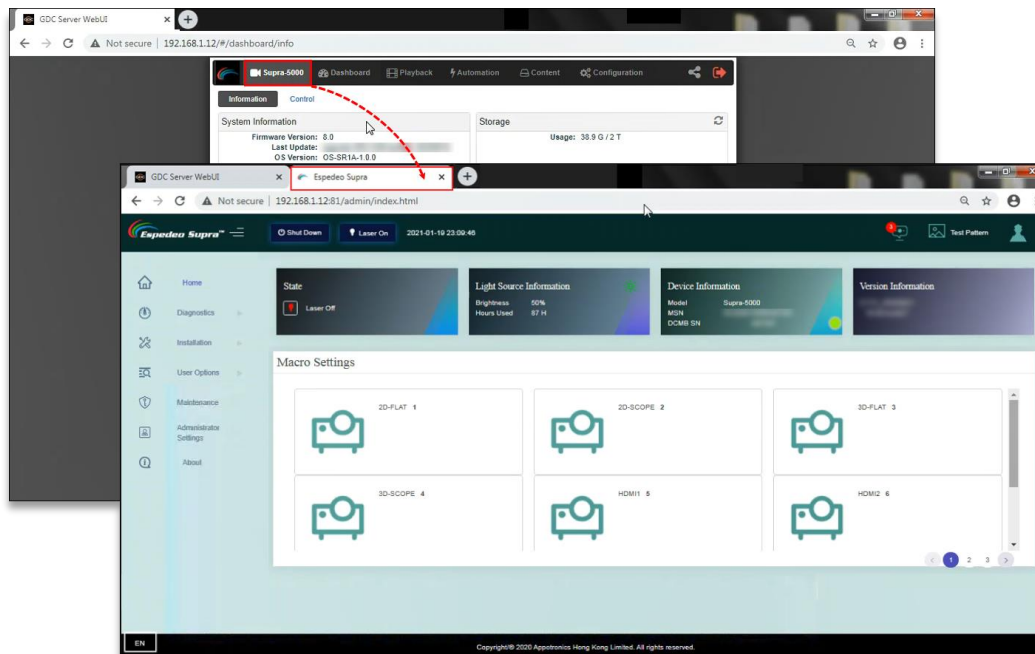

Figure 13:
- b. When the **Single tab mode** option is disabled; you can click on the **'Supra-5000'** tab to open and access the Supra Command Center web interface in a new browser tab (as shown in **Figure 13**).